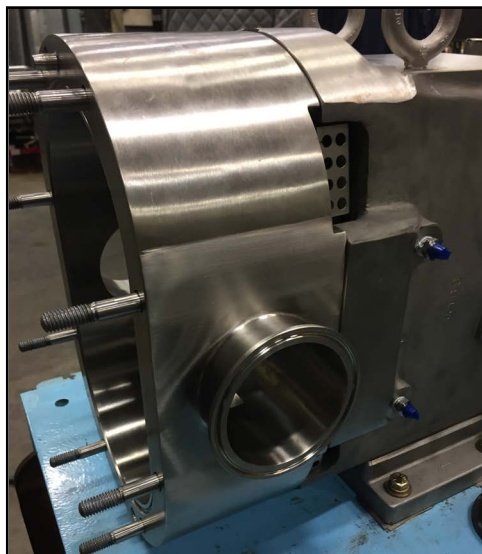

Figure 66 - Pump body installed
2. Figure 66 shows the pump body installed on the gear case.